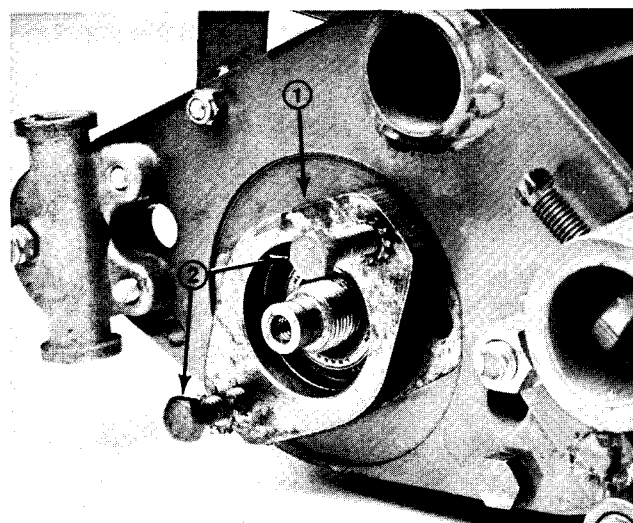

Figure 29
4. Use a plastic headed hammer to rotate bearing housing slightly, install bolts from outside of housing and turn bolts alternately against side plate to remove bearing housing (Fig. 29). Bearing housing will slip out of side plates and reel assembly can be removed as soon as bearing housings are disassembled from side plates.